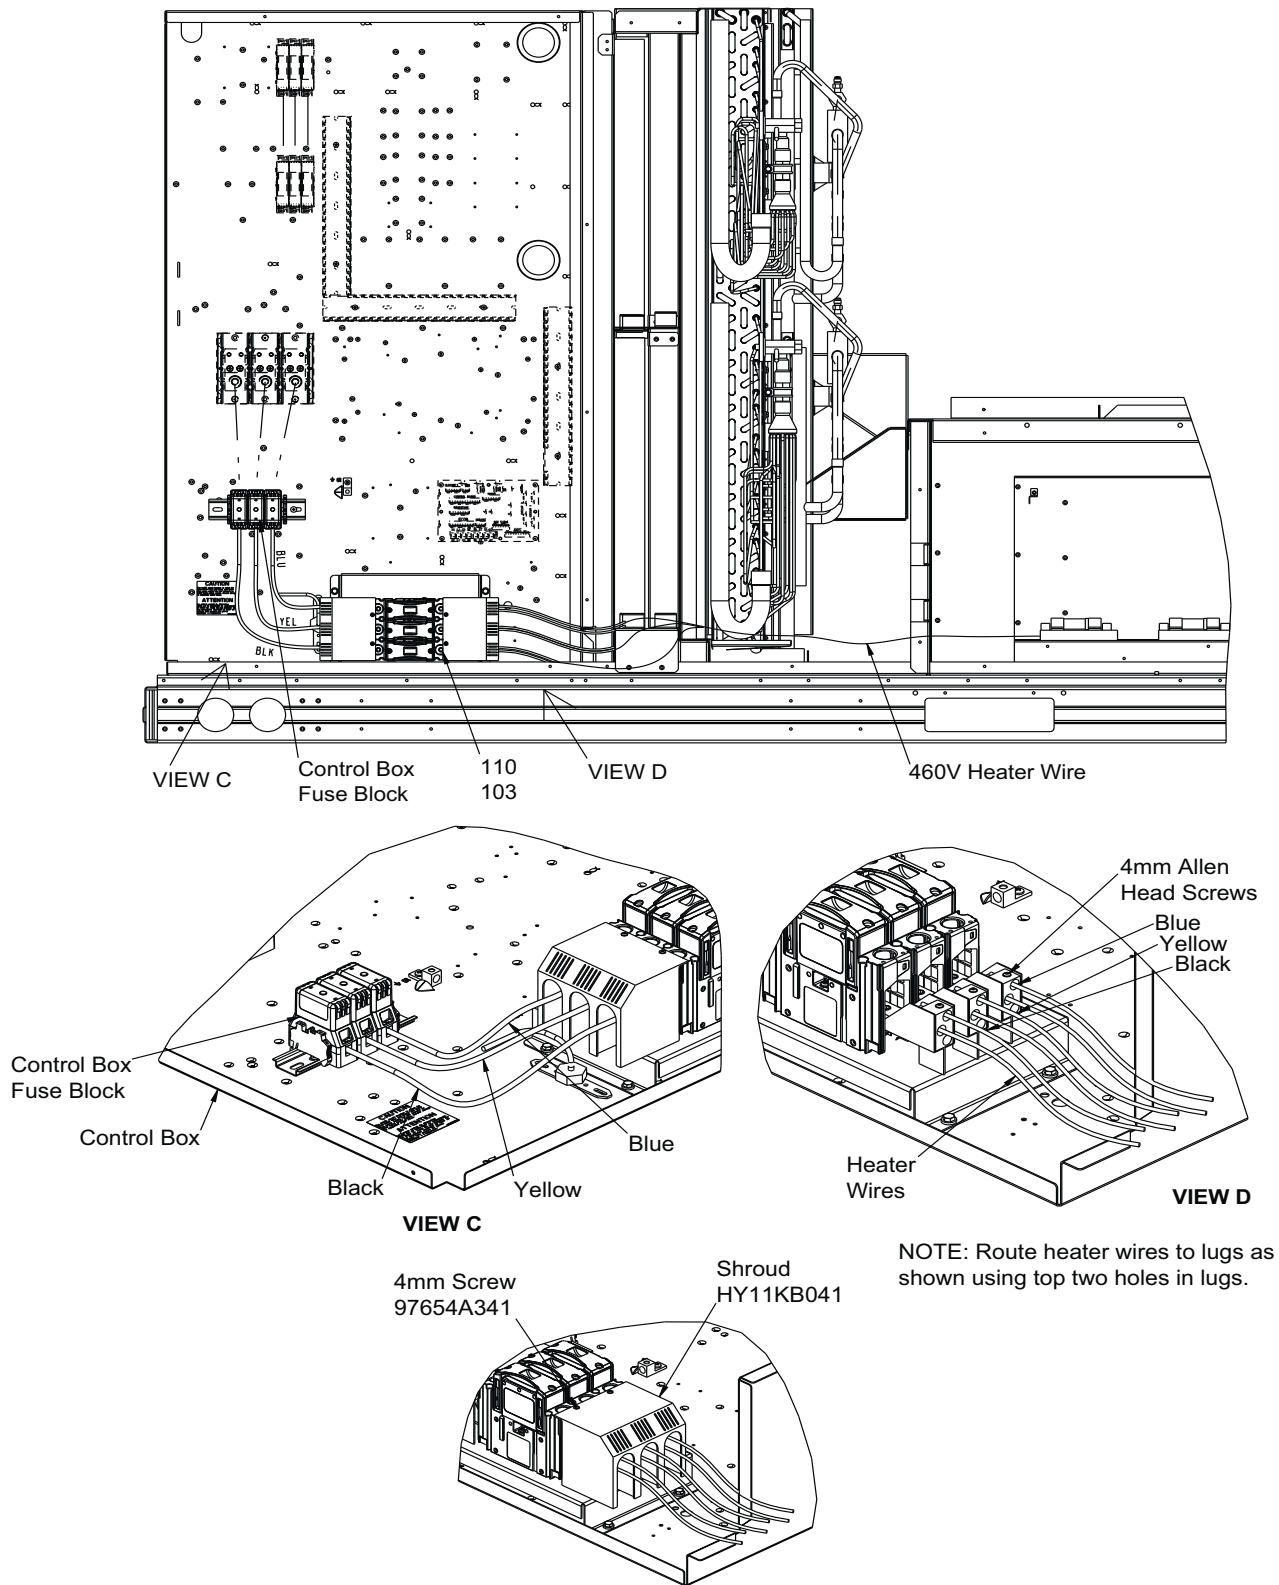

Fig. 43 — 460V Single Point Power Assembly Location (High SCCR)
1. Remove shroud screws and shroud. Install fuse block assembly in location shown in Fig. 43.